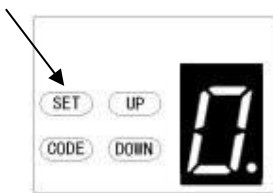

Figure 3
b) Press the **SET** Button it will display the status that you choose.(Fig.3)